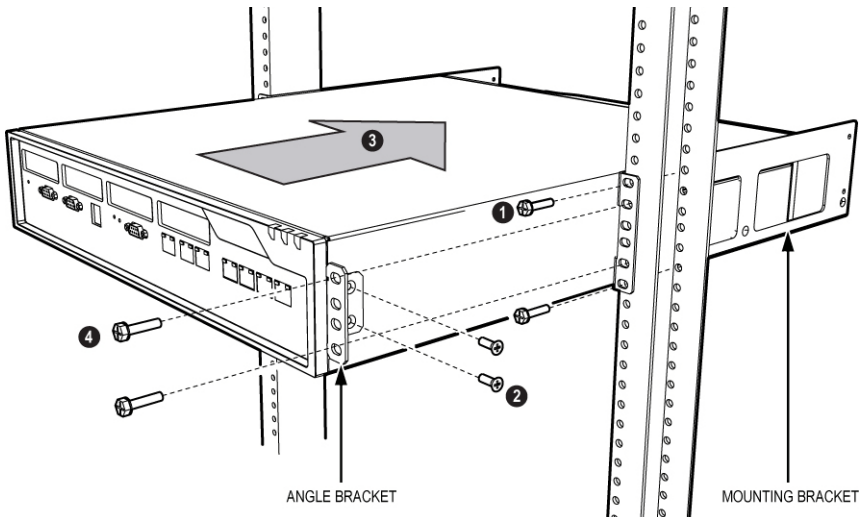

Figure 18: MXe and CX II/CXi II Controller Rack-Mount 4-Piece Bracket Installation
1. Position a mounting bracket inside the rack frame at the desired height. Fasten the mounting bracket to the front of the rack frame with two screws—one in the top hole, the other in the bottom (see 1 on Figure 18). Then do the same to fasten the other mounting bracket on the other side of the rack frame at the same height.
2. Fasten the angle brackets on each side of the cabinet. Align the brackets with the pre-drilled holes located near the front panel. Use two screws to fasten each bracket (see 2 on Figure 18).
3. Set the controller cabinet onto the mounting brackets and slide the controller cabinet into the cabinet (see 3 on Figure 18).
4. Fasten the angle brackets to the rack frame. Install two screws in each bracket (see 4 on Figure 18).